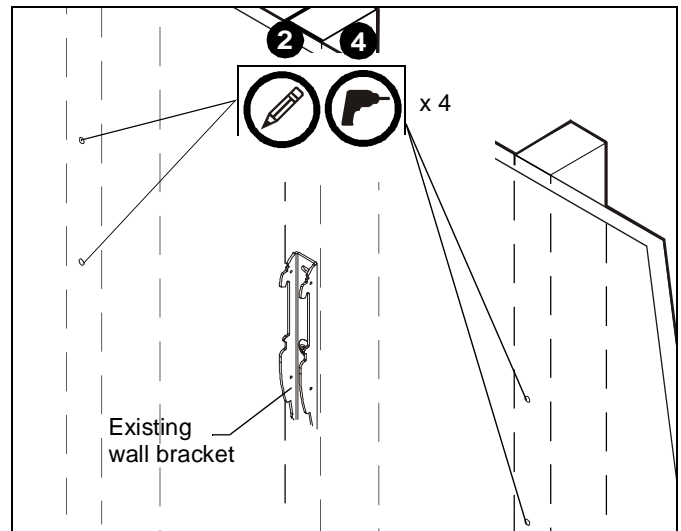

Figure 5
2. Using wall bracket (L) as a template, line up holes on wall bracket with center of studs at desired mounting location. Mark two holes at holes in bracket, ensuring holes are at center of stud. (See Figure 5)
3. Using a level, mark holes for second wall bracket (L) on opposite side of existing wall bracket.
4. Drill four 1/2" holes at marked locations in wall. (See Figure 5)